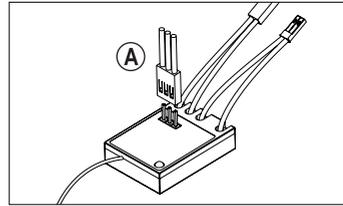

Figure 6
Figure 6 indicates the connection plug for the steering servo (A). The plug can only be connected to the remote control in two positions. The servo connector is plugged in correctly when the brown (or black) cable is inserted into the "-" (minus) socket (indicated on the receiver).